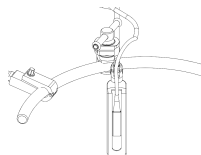

Figure 17
- Slide the shim tips of the **Light Cable, Shim Tip, 10', Non-sterile (ML-0068)** into the shim channels of the **Retractor Blades**. (Figure 17)